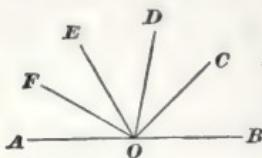

FIG. 14.
- 33.** From the foregoing it will be evident that if a number of straight lines on the same side of a given straight line meet at the same point, the sum of all the angles formed is equal to two right angles, or  $180^\circ$ . Thus, in Fig. 14, angles  $C O B + D O C + E O D + F O E + A O F = 2$  right angles, or  $180^\circ$ .